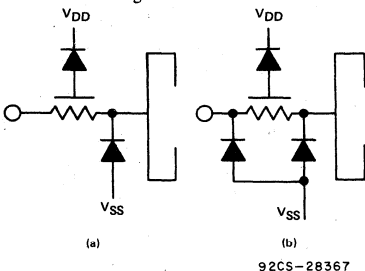

Fig. 7 - (a) Standard and (b) improved protection networks.
**Input-Leakage Current**—Input-leakage current is current that flows through reverse-biased diodes, whether intrinsic or diffused, and through the input-protection network connected to the gate. The diodes present in standard and improved protection networks are shown in Fig. 7.